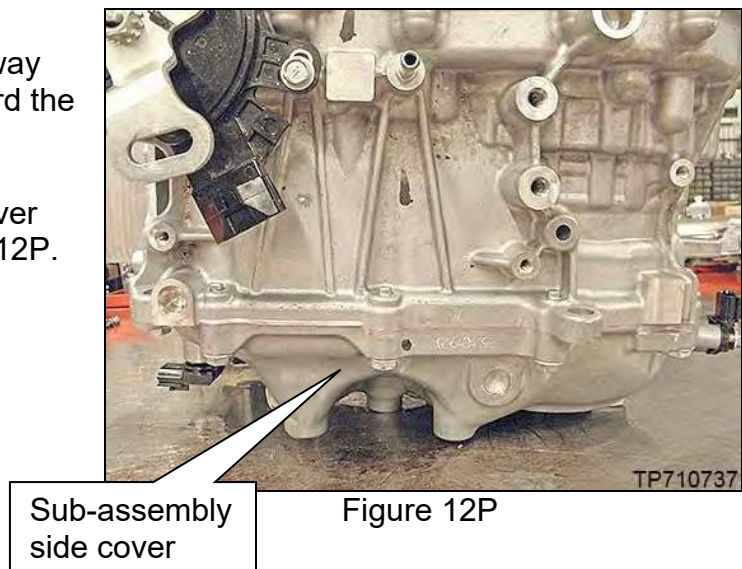

Figure 12P
- Leave the sub-assembly side cover facing down as shown in Figure 12P.